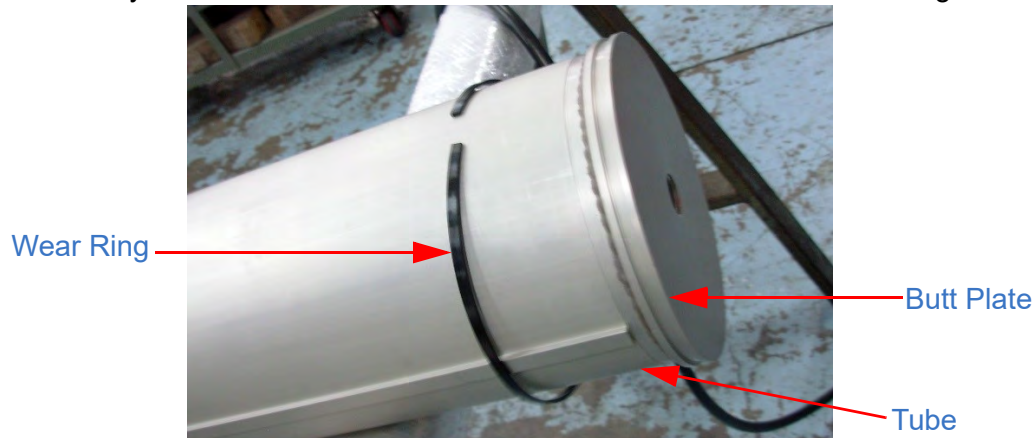

Figure 8-12 Wear Ring Loose on Tube
- Slip the appropriate sized wear ring onto the tube past the butt plate (Figure 8-12). Leave it loose and easily accessible. For 9.12 and 10.00 inch tubes, use both wear rings.